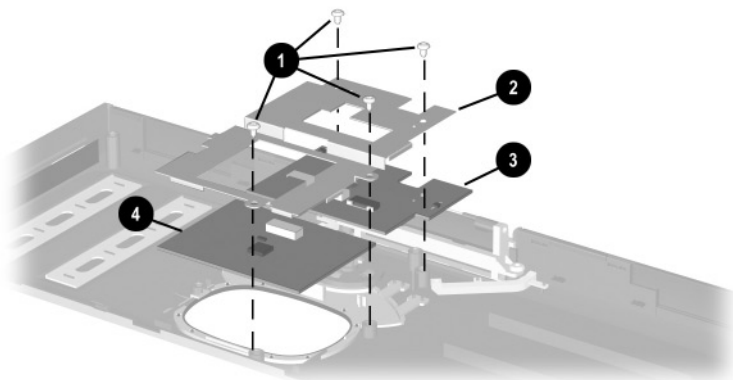

Figure 5-33. Removing the TouchPad Components on TouchPad Models
7. Remove the four TM2.5 × 5.0 screws ❶ that secure the TouchPad, TouchButton board, and TouchPad bracket to the palm rest (Figure 5-33).
8. Remove the TouchPad bracket ❷, TouchButton board ❸, and TouchPad ❹ from the palm rest.